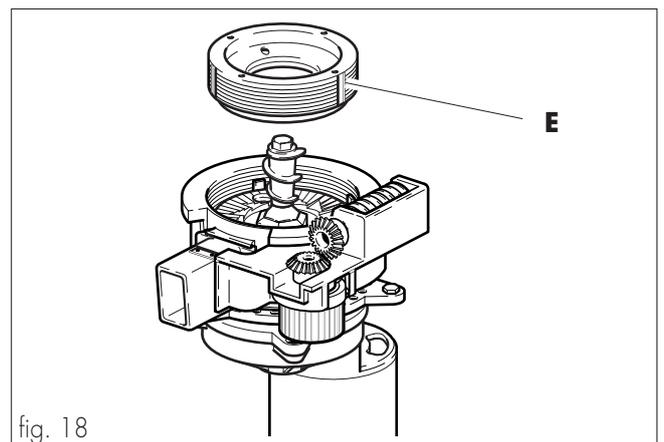

fig. 18
- Completely unscrew the adjustment ring nut (ref. **E**, fig. 18) and clean both the grinders using a vacuum cleaner and a brush.